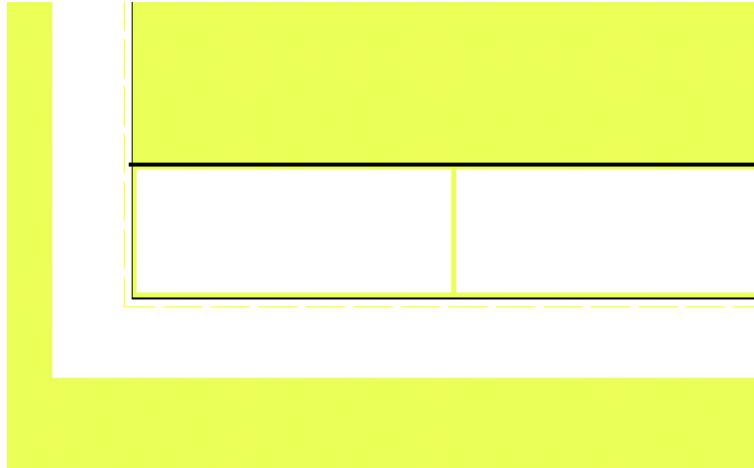

Figure 4-47
28. Select *Modify/Select Object*. Place the cursor just at the top of the left rectangle and click on the edge. Only the rectangle outline should be highlighted. Click the <Delete> key to delete the rectangle outline. Repeat for the right rectangle. See Figure 4-47.